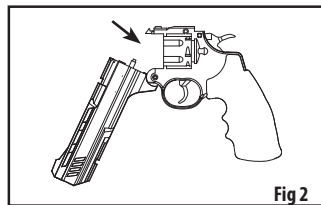

Fig 2
**WARNING:** BE CAREFUL TO KEEP FINGERS CLEAR OF THE PINCH POINTS. FIGURE 2 SHOWS THE PINCH POINTS TO BE AWARE OF.